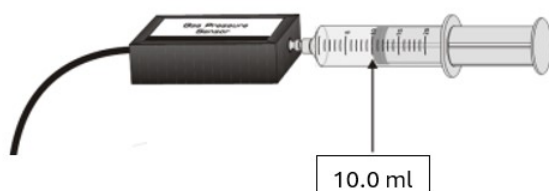

Figure 2: Syringe connected to the vernier gas pressure sensor, with an arrow pointing to 10.0 mL.
- c. Take the 20.0 mL syringe (not yet connected to the Gas Pressure Sensor and move the syringe's piston until the front edge of the inside black ring (indicated by the arrow in Figure 2) is positioned at the 10.0 mL mark.